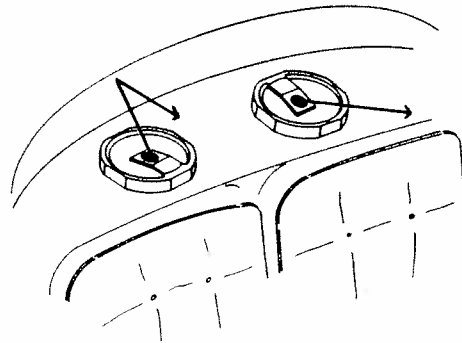

Figure 1
- 1) Placement of the speakers in the automobile will have an important effect on proper imaging of the system. Front doors provide a good mounting location for the T205, T420, and T425 speaker systems in most cars. In addition to spacing the speakers at a distance desirable for good stereophonic separation, the front doors also form an enclosure which properly loads the woofers to help produce solid, well-defined bass response. The same considerations make the rear deck desirable for the mounting of the T540 and T545 speaker systems. (The T205, T420, and T425 may also be mounted in the rear deck.) To improve the imaging characteristics of the speakers, JBL has mounted the high frequency driver assemblies at an angle. Figures 1 and 2 show how the mounting of the speakers can help direct high frequencies (either directly or by reflection) to the listener. **NOTE:** In front door installations the high frequency drivers should always be angled towards the listener.